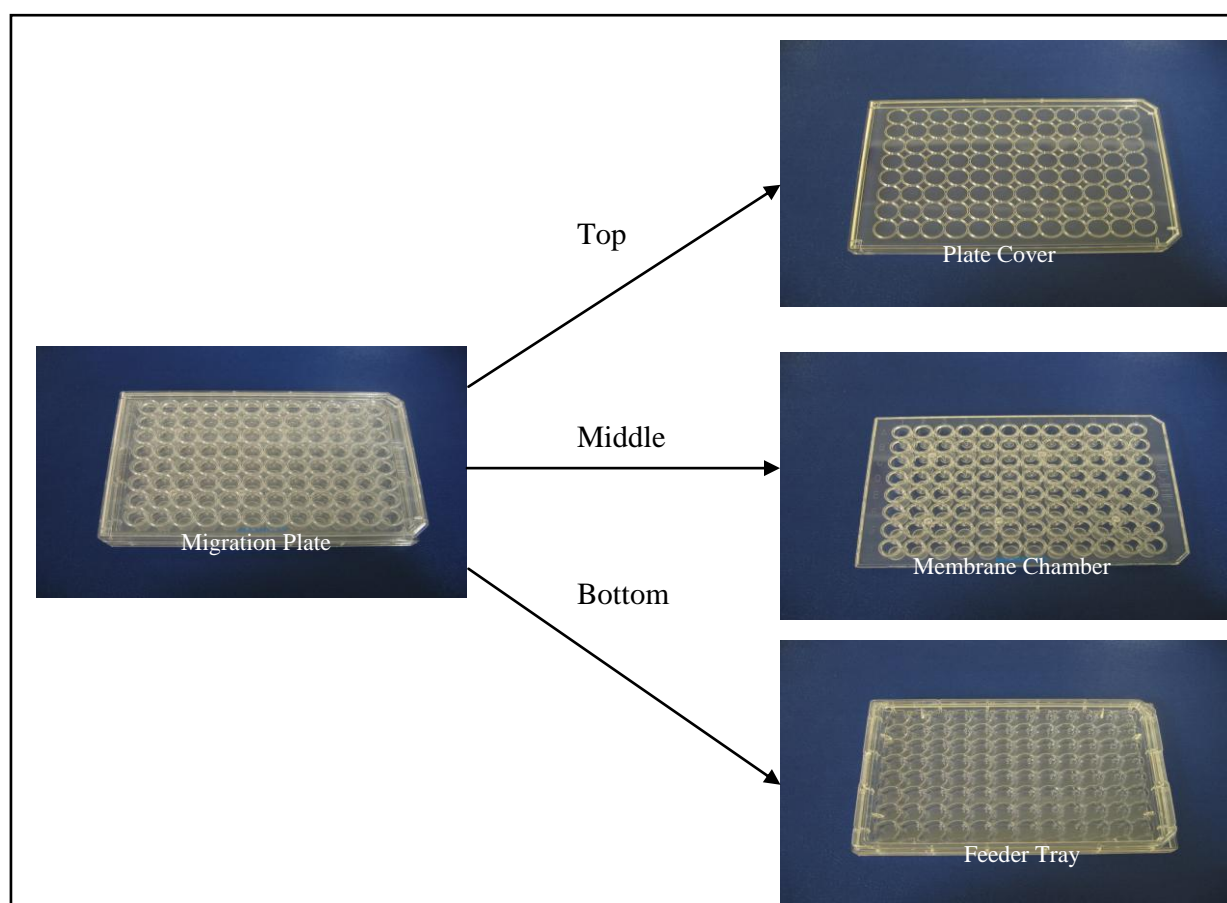

Figure 1: Components of the 96-well Cell Migration Plate.
1. 96-well Cell Migration Plate (Part No. 10601): One sterile 96-well plate (see Figure 1 for components)
2. 96-well Cell Invasion Plate (Part No. 11201): One sterile 96-well plate containing ECM-coated inserts (see Figure 1 for components)